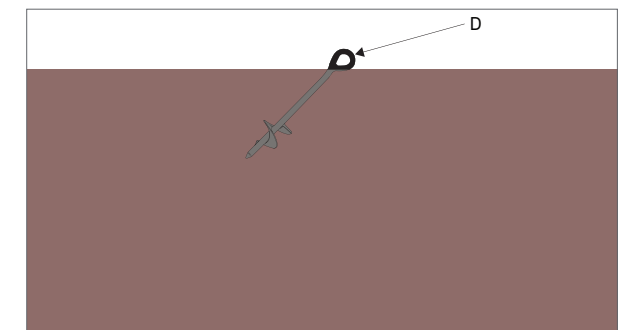

Figure 4 Guy rope screw (D) screwed into soil
4. Pull each guy ropes (F) to the aligned guy rope anchor (D) and securely tie to the top loop (Figure 4).